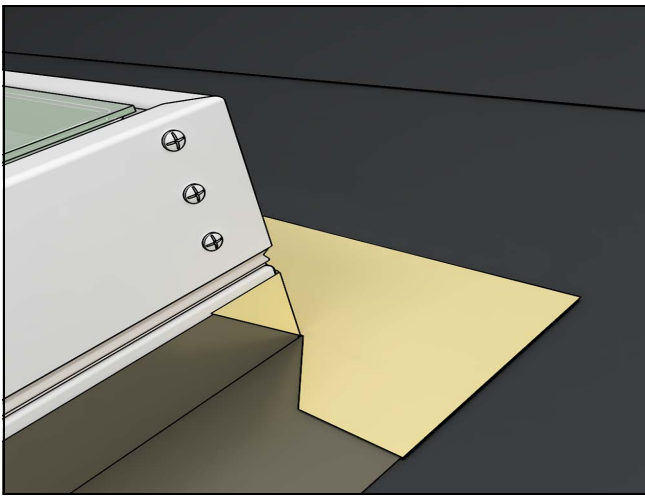

Figure 13
11. Wrap the top frame of the unit with adhesive flexible flashing. See Figure 13.